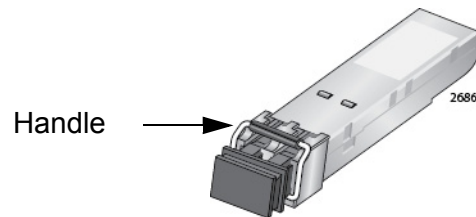

Figure 60. Handle on the AT-StackOP/0.3 and AT-StackOP/9.0 Transceivers
2. To install the transceiver in the S1 slot, position it with the handle on top, as shown in Figure 60. To install it in the S2 slot, position it with the handle on the bottom.